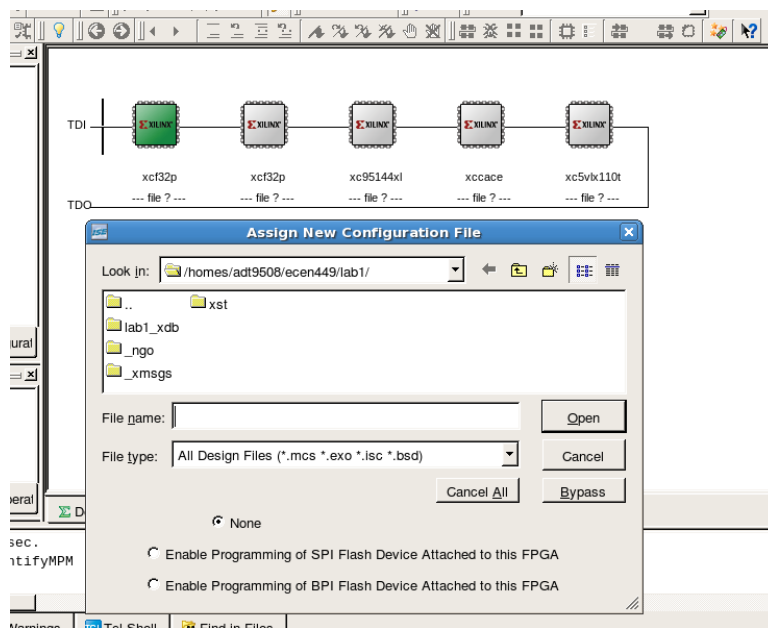

Figure 6: JTAG Chain
- (c) After scanning the board, iMPACT should find five devices (Figure 6).